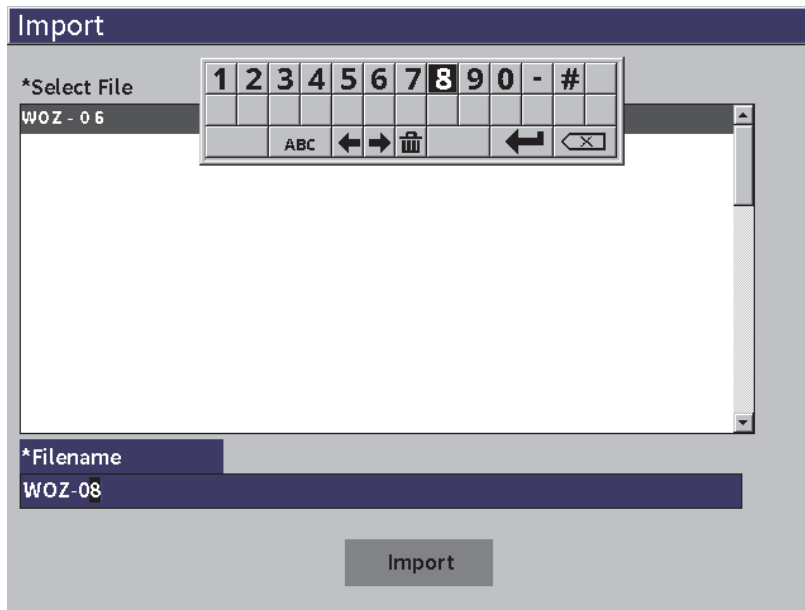

Figure 9-33 Import (video file) setup page
5. To import the selected file under a different name, enter a new file name (up to 32 characters) using the virtual keypad, adjustment knob, and the Enter key (see Figure 9-33 on page 142).